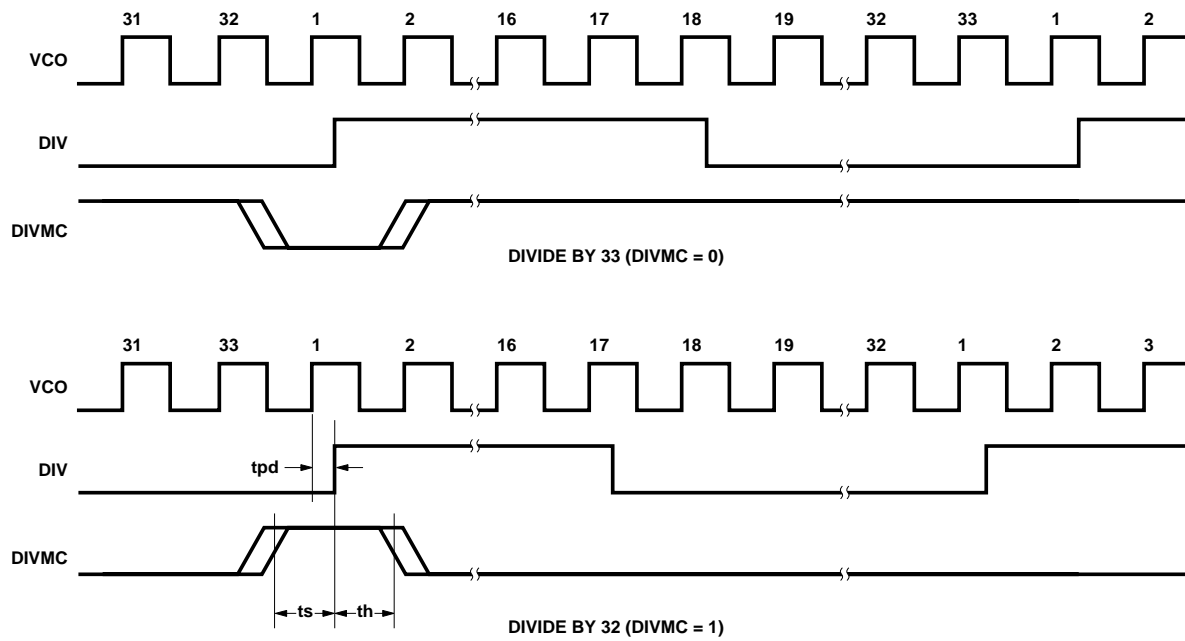

Figure 2. HPMX-5001 Prescaler Timing Diagram.
- See Figure 2 for detailed timing diagram.
triggered CMOS synthesizers from a variety of vendors. The timing requirements for the prescaler are shown in Figure 2. It is important to note that the prescaler divides the VCO signal, and not the frequency doubler output. Local oscillator (LO) signal generation on the HPMX-5001 is accomplished through the combination of a VCO and frequency doubler. The VCO is a simple Clapp oscillator for the best possible noise performance. The VCO force and sense pins (VCOTNKF, VCOTNKS) are self-biased, so that the connections to the tank (minimum Q of 20) are through AC-coupling capacitors. VCOTNKS can also be used with an injected LO. VCOTNKF would then be left floating. The doubler circuit multiplies the VCO frequency by two. This enables the VCO to have lower sensitivity to both package parasitics and LO re-radiation. Separate bias pins and buffering are utilized to minimize pulling of the VCO when the chip is switched from synthesizer to transmit or receive mode.